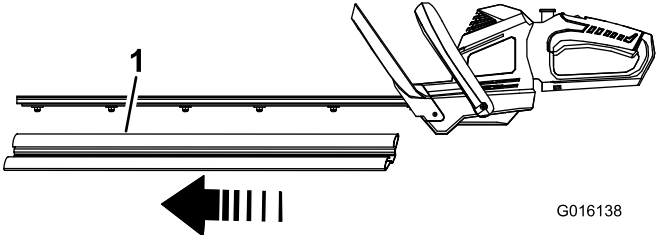

Figure 1
- Remove the protective cover from the cutter blades (Figure 1).